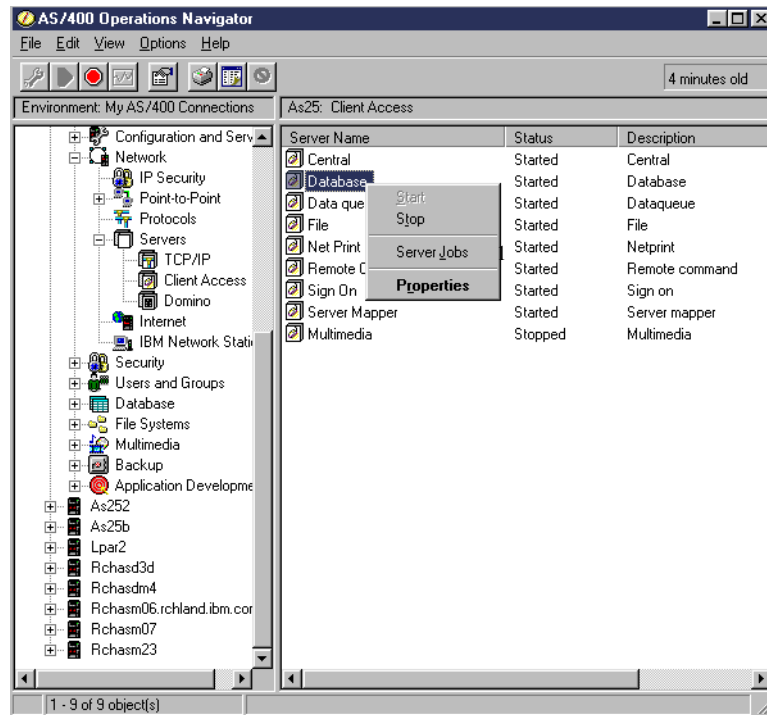

Figure 309. Finding the database server job (Part 1 of 2)
- You can use the Operations Navigator server jobs interface to find the job by selecting Operations Navigator **Network->Servers->Client Access** to view the Client Access Express servers as shown in Figure 309.